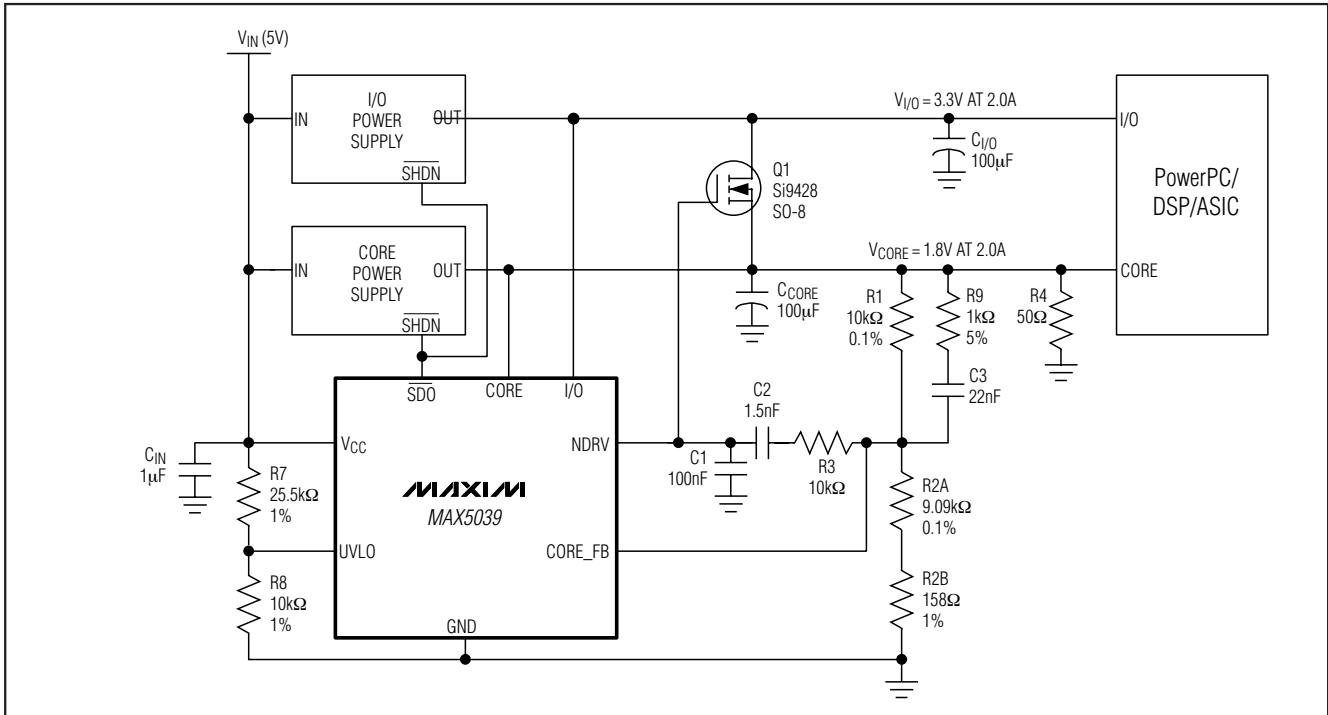

Figure 9. Typical Application Circuit for the MAX5039
**CORE REGULATOR LOOP BODE PLOT (SEE FIGURE 9)**
When the I/O voltage is greater than or equal to the CORE voltage, MAX5039/MAX5040 regulate the external N-channel MOSFET as a linear regulator by controlling NDRV. The linear regulator regulates the CORE voltage to the value set by the external resistor-divider connected from CORE to CORE\_FB and GND (see Figures 9 and 10). If the CORE\_FB voltage is far less than its regulation point,  $V_{C\_REF}$  (800mV), NDRV drives high to  $V_{CC}$ , effectively shorting CORE and I/O together through the external MOSFET. If the CORE\_FB voltage
Figures 9 and 10 show an application example.
See the application circuit examples in Figures 9 and 10. The following explains constraints on the CORE voltage.